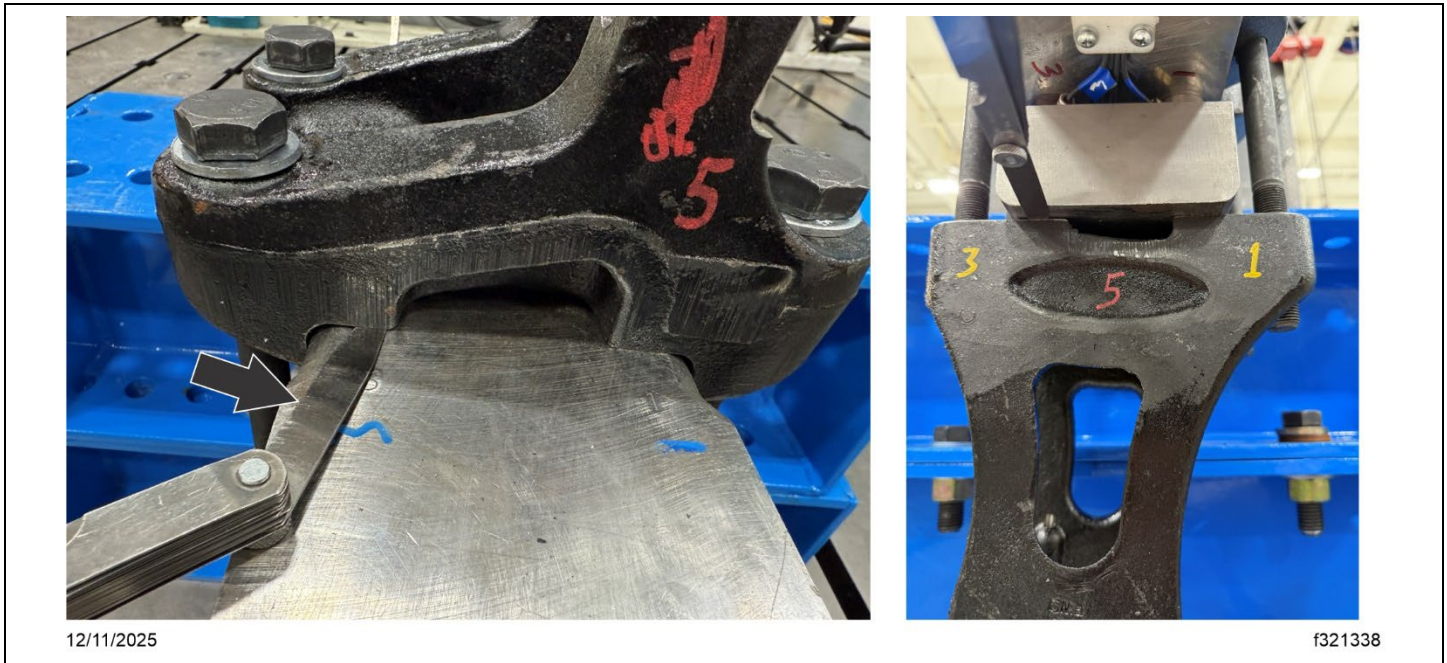

Fig. 3, Measuring the Gap Using a Feeler Gauge
7. Inspect each corner of the clamp group with a 0.0015-inch feeler gauge, as shown in **Fig. 3**. There should be no gap between the suspension clamp group casting and the axle housing.